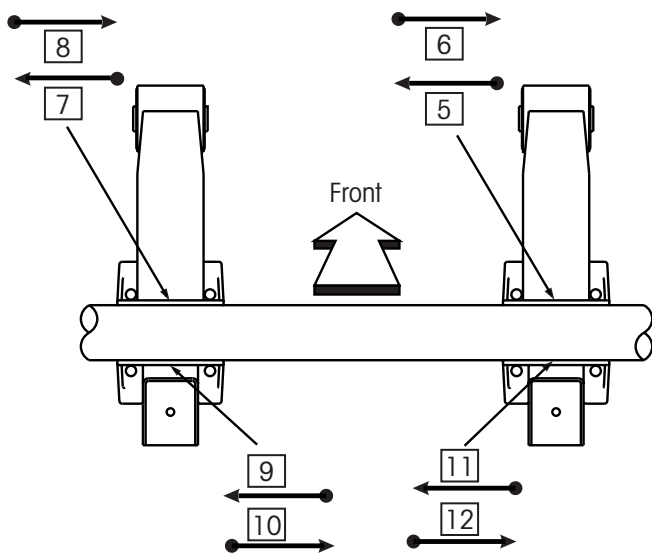

Figure 5c. Second and third pass weld sequences
2. Continue with the second and third weld passes after all four root passes (Figure 5c).